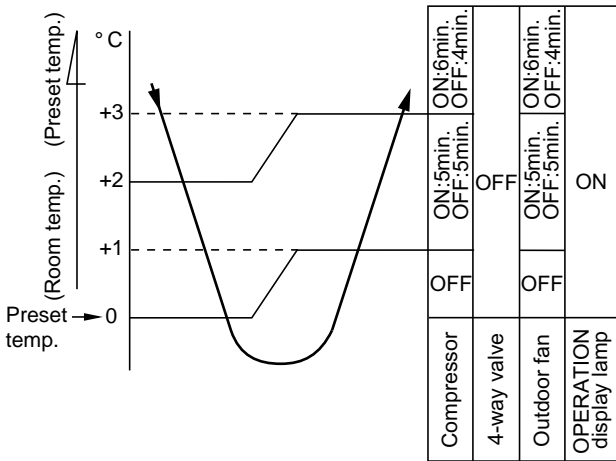

Fig. 7-3-4
- (1) The compressor, 4-way valve, (Heat pump model only) outdoor fan and operation display lamp are controlled as shown in Fig. 7-3-4.